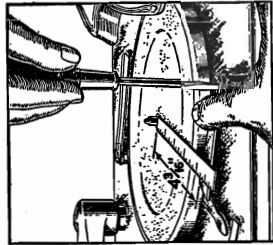

Figure 3—Adjusting elevator pad
7. After the instrument has completed one record changing operation, a ten inch record should extend about three-quarters way over each elevator pad. If this condition does not exist, an adjustment can be made by means of the screws that hold the pads in position. A pair of pliers heavily padded with cloth or other soft material should be used to hold the elevator shafts while loosening and tightening the screws. The distance from the closest part of either pad to the edge of the spindle is approximately $4\frac{1}{16}$ ". Figure 3 shows the method of making this adjustment.